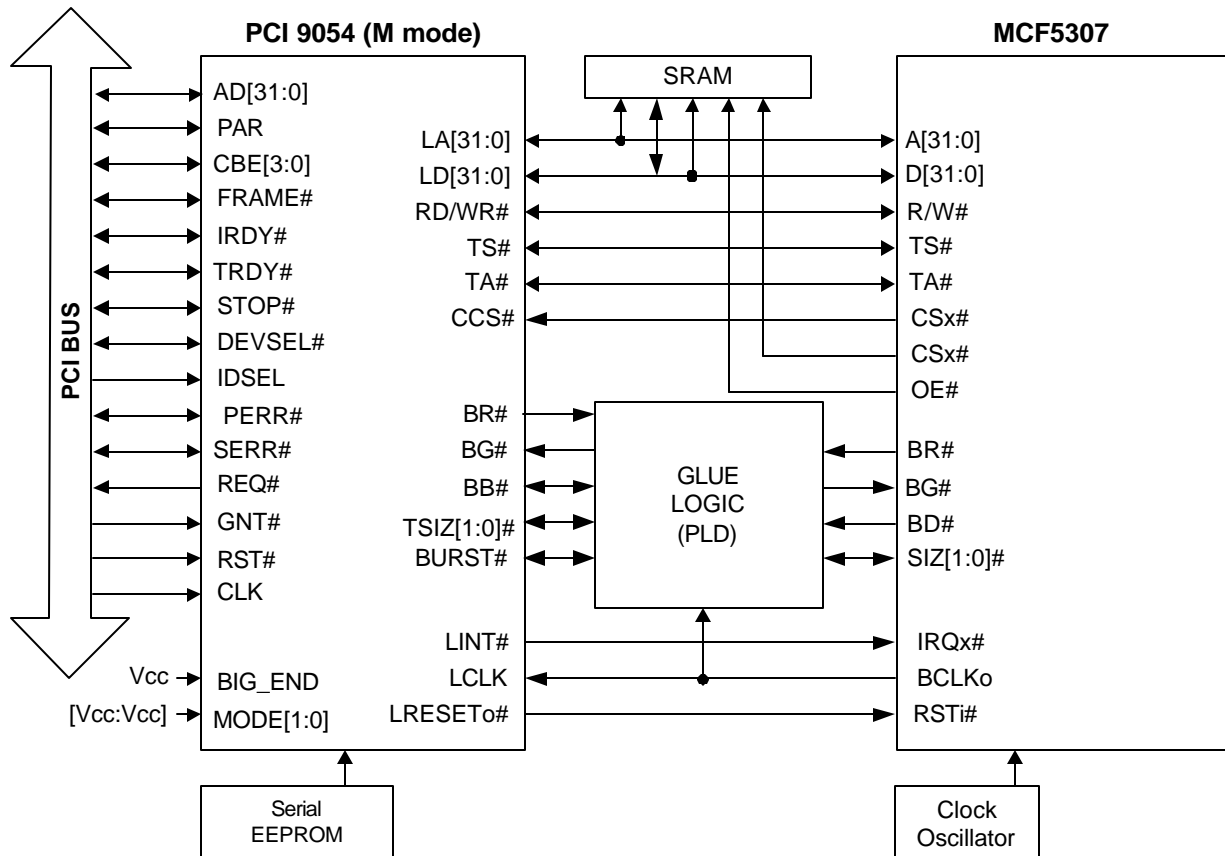
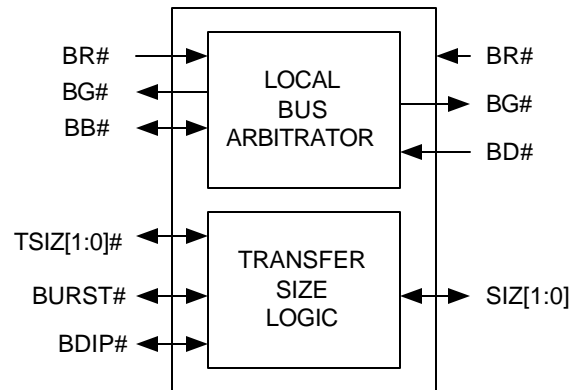

Figure 1. MCF5307 to PCI Subsystem
Figure 2. PCI 9054 to MCF5307 PLD
- Figure 1. MCF5307 to PCI Subsystem1
This application note describes the interconnect between the Motorola MCF5307 ColdFire and the PCI bus using the PLX PCI 9054 "PCI to Local bus bridge" IC. This application note can be used as a basis to build either a PCI adapter or host to plug into a PCI bus backplane, or for building an embedded system. The interconnect between the PCI 9054 and the MCF5307 also requires the use of extra logic, in the form of a PLD or other programmable logic. Figure 1 shows the connections between the PCI 9054, the MCF5307 and the PLD. Figure 2 shows the detail in the PLD.
The Block Diagram of the PCI 9054/MCF5307 application (Figure 1) will be discussed in the following subsections. The Local bus consists of all the signals in the application block diagram that are connected to the MCF5307. Only the PCI 9054 and the MCF5307 can be the Local bus masters. The MCF5307 can access the PCI 9054 registers as well. The PCI 9054 and MCF5307 are both configured for Big Endian operation. The PCI 9054 has the capability of byte swapping Big Endian data into Little Endian data, which can then be sent over to the PCI bus.